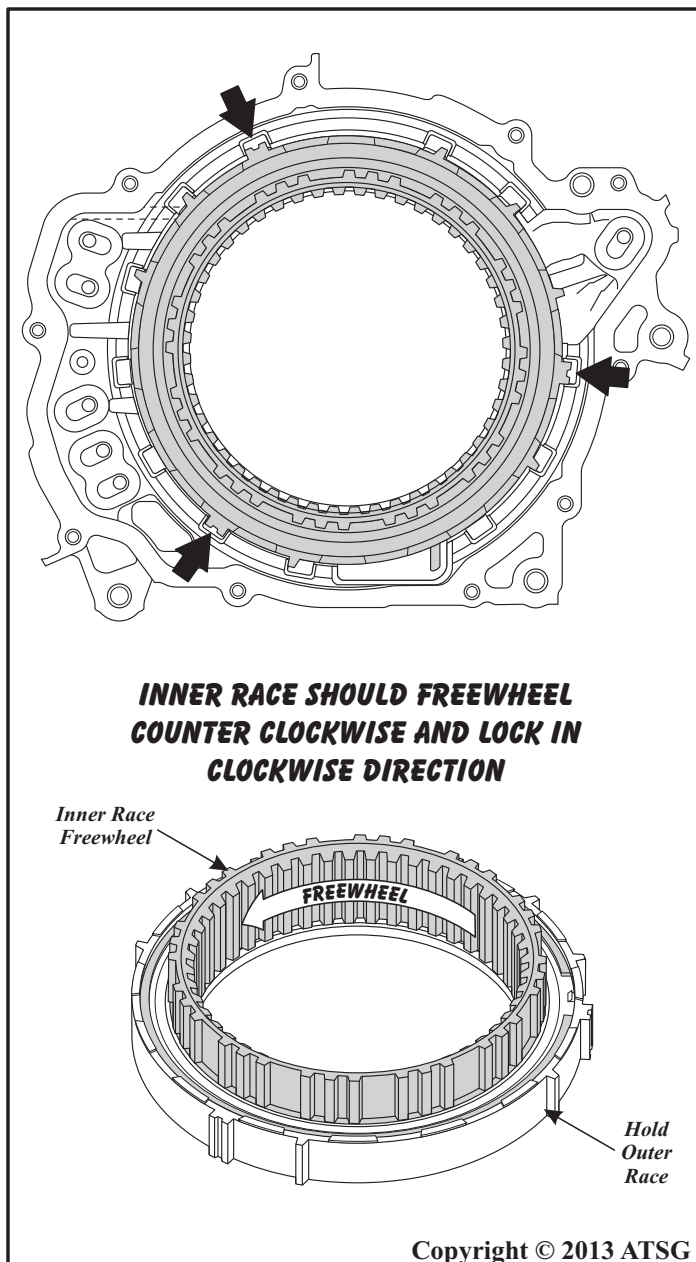

Figure 195
18. Check one-way "diode style" clutch assembly to ensure proper operation, as shown in Figure 195.
- Note:** Install one-way clutch assembly so that the three wide lugs are positioned as shown in Figure 195 for installation.